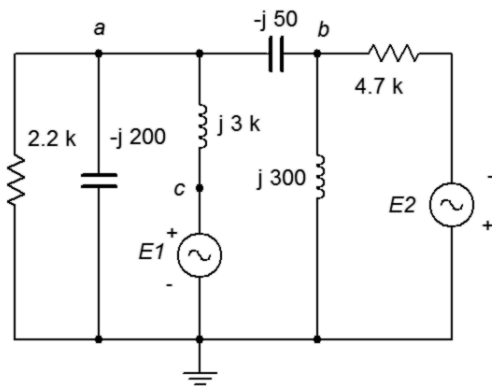

Figure 6.8
15. Use mesh analysis to find the current through the $j300\text{ }\Omega$ inductor in Figure 6.8. $E1 = 1\angle 0^\circ$, $E2 = 10\angle 90^\circ$.
16. Given the circuit in Figure 6.8, use mesh analysis to determine v_a . $E1 = 100\angle 0^\circ$, $E2 = 90\angle 0^\circ$.